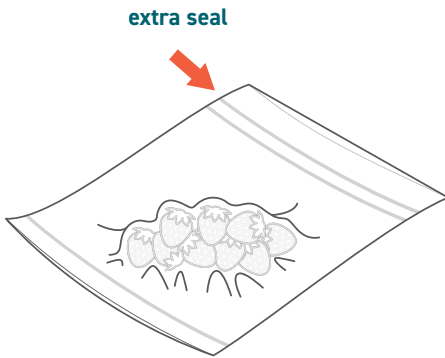

Figure 5.1
- If you are unsure whether your bag was sealed properly, reseal the bag just above the first seal. [Figure 5.1]